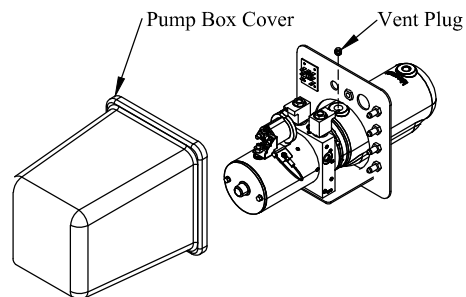

Figure 18: Pump reservoir vent plug.
9. **Verify** that the vent plug is installed in the pump reservoir (Figure 18).
5. **Install** the 2GA power cable from the mounting kit on the power unit (Figure 18).